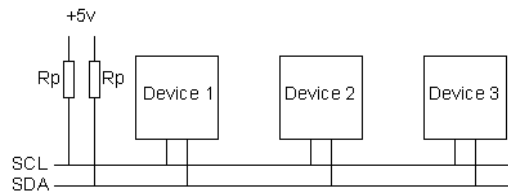

Figure 1: I2C bus
- Synchronised serial data transfer is accomplished using only 2 lines (figure 1):